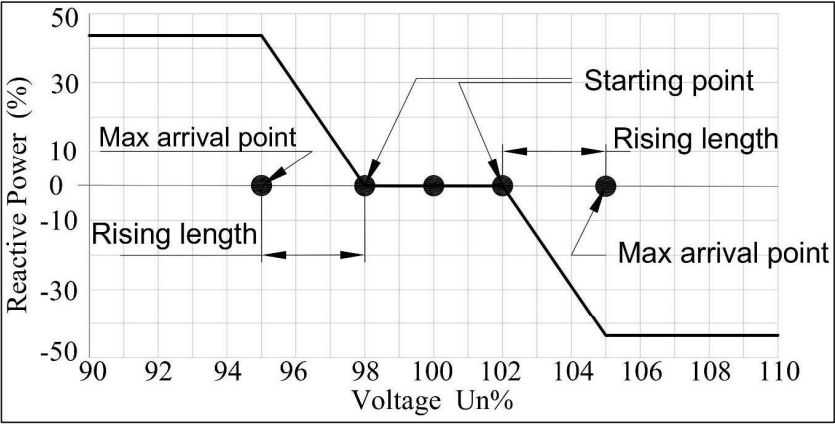

Figure 3.19 QU curve when power factor is 0.9,
- **Reactive Power-Vol curve:** Reactive power-voltage amplitude curve abide by Universal standard. Please set the following parameters as required: Starting point of Q-U%, Rising length of Q-dU%. For example, As shown in the figure 3.19, QU curve when power factor is 0.9, From the power factor of 0.9, we can calculate the maximum reactive power as $43.59\% \times \text{apparent power}$).